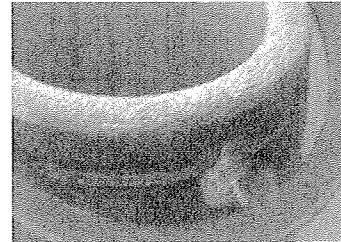

Figure 18: Safety Ring
4. Install the safety washer with the notch facing into the hole, followed by sliding down the retaining ring washer, and finally snap the two retaining rings into the groove. Refer to Figure 18 and 19.